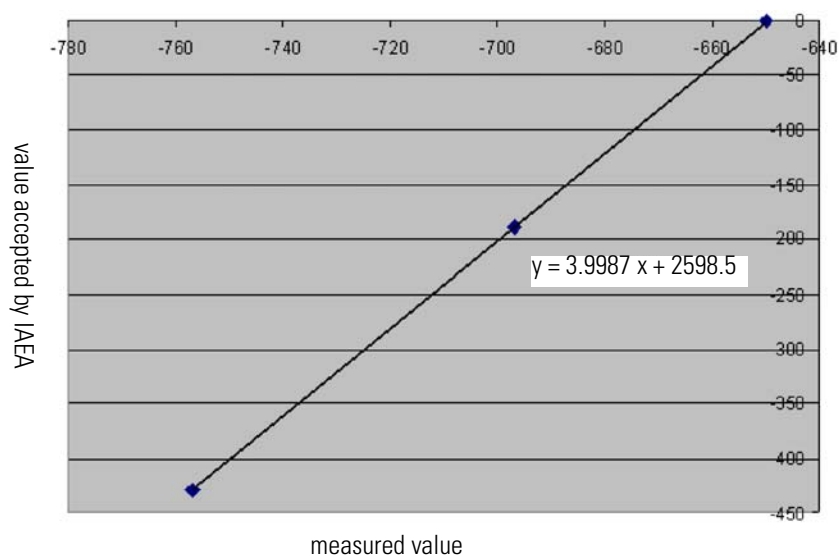

Figure 5-31. Measured δ values vs. accepted values
2. Plot the measured δ values versus the accepted values (IAEA) as given in the example above (Figure 5-31).